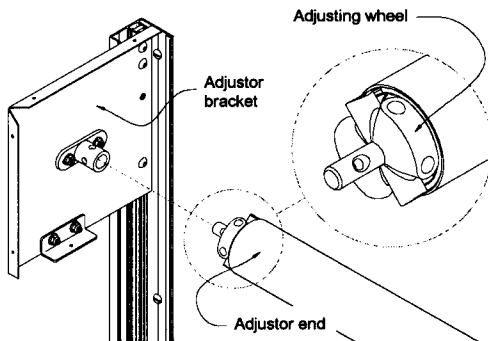

Figure 4
Step 5: Install shaft. Shaft installation will vary slightly based on operation of unit. Shaft installation for each type of operation will be described below. Common to all shafts, regardless of unit operation, is the adjuster. Each shaft has a circular cast iron adjusting wheel with six pockets for use when charging the springs; this end of the shaft will be referred to as the adjuster end of the shaft; refer to Figure 4. If unit is supplied with S114A rings, they